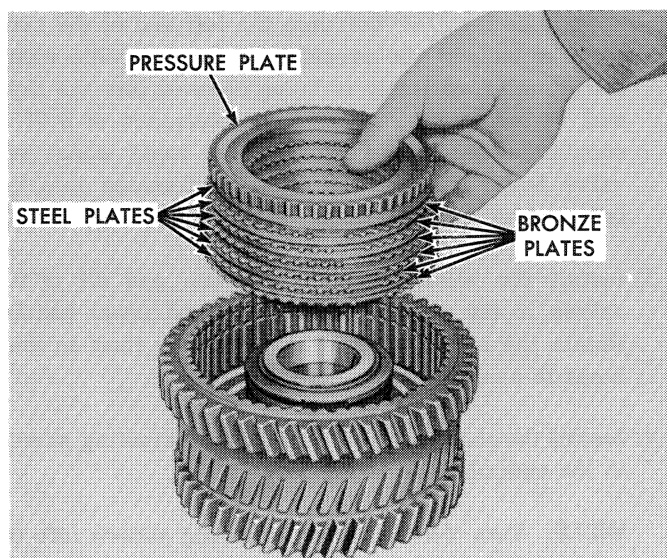

Figure 84
2. Remove the pressure plate and bronze and steel plates from the clutch housing, shown in Figure 84.